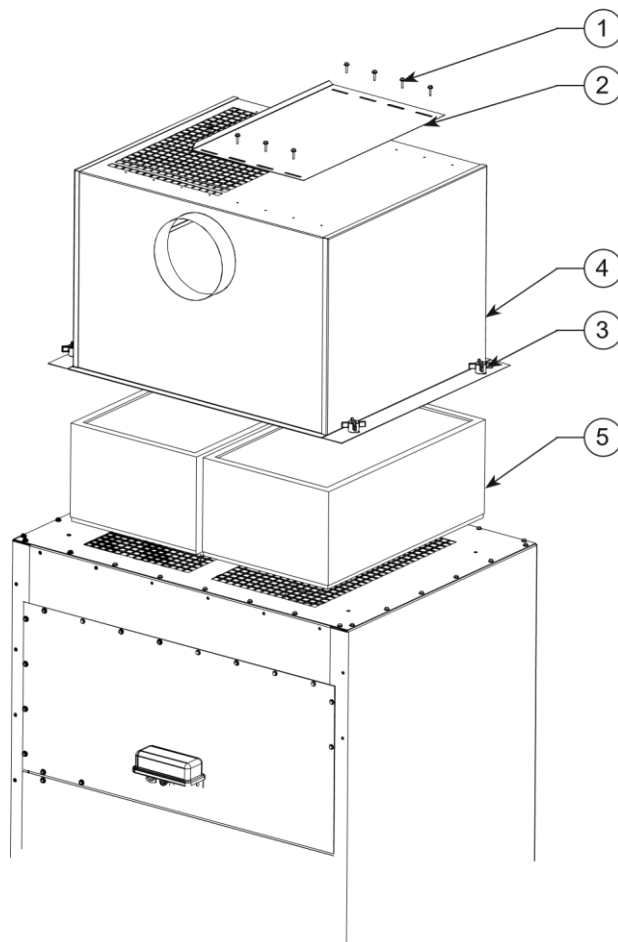

FIG. 6
3. Place the HEPA/Regain Assembly over the filters. The duct opening should point towards the front of the cabinet (See FIG. 6).